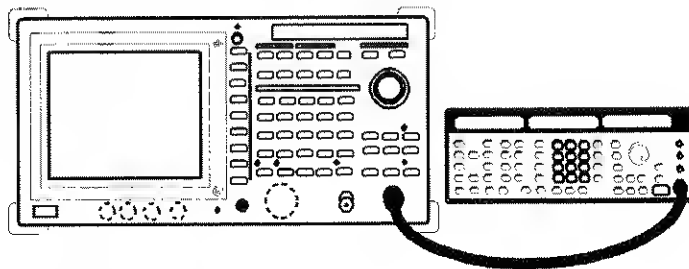

Figure 2-49 Measuring AM Signal in Separate Screen Mode
1. Connect the unit under test as shown in Figure 2-49.